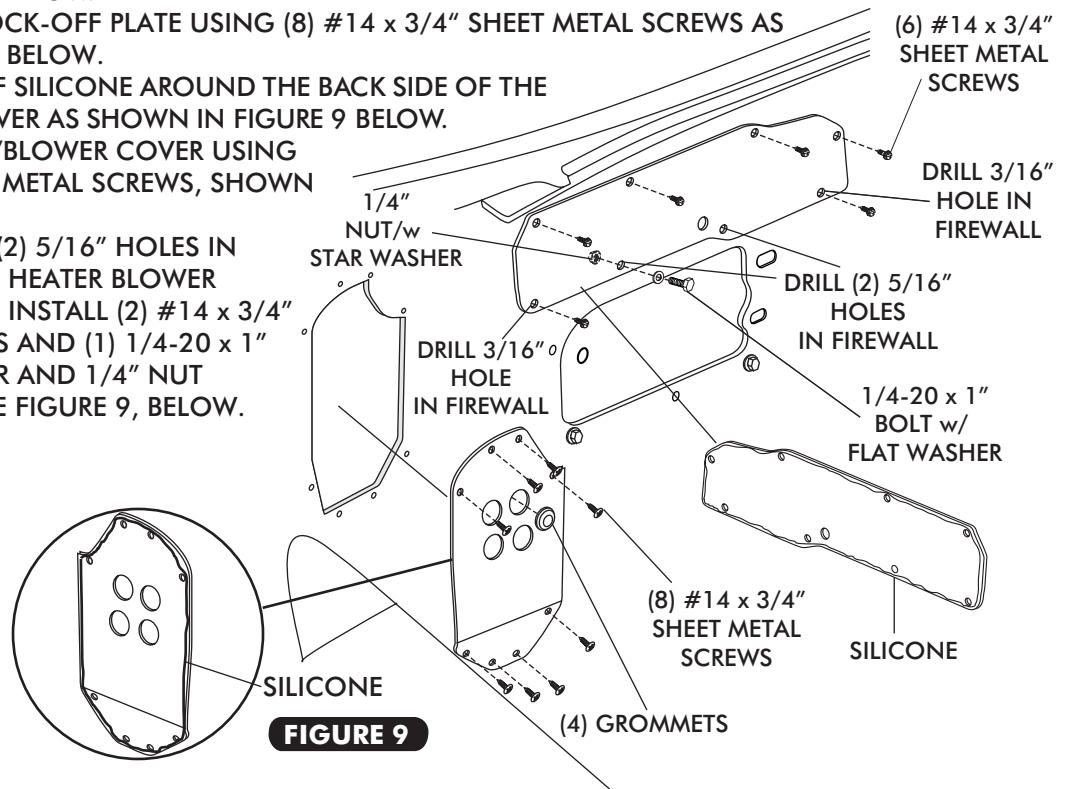

FIGURE 9
- ☐ INSTALL (4) GROMMETS IN A/C BLOCK-OFF PLATE AS SHOWN IN FIGURE 9 BELOW.
- ☐ APPLY A 1/4" BEAD OF SILICONE AROUND THE BACK SIDE OF THE A/C BLOCK-OFF PLATE AS SHOWN IN FIGURE 9 BELOW.
- ☐ INSTALL THE A/C BLOCK-OFF PLATE USING (8) #14 x 3/4" SHEET METAL SCREWS AS SHOWN IN FIGURE 9 BELOW.
- ☐ APPLY A 1/4" BEAD OF SILICONE AROUND THE BACK SIDE OF THE HEATER/BLOWER COVER AS SHOWN IN FIGURE 9 BELOW.
- ☐ INSTALL THE HEATER/BLOWER COVER USING (4) #14 x 3/4" SHEET METAL SCREWS, SHOWN IN FIGURE 9.
- ☐ DRILL (2) 3/16" AND (2) 5/16" HOLES IN FIREWALL USING THE HEATER BLOWER COVER AS TEMPLATE. INSTALL (2) #14 x 3/4" SHEET METAL SCREWS AND (1) 1/4-20 x 1" BOLT w/FLAT WASHER AND 1/4" NUT w/ STAR WASHER. SEE FIGURE 9, BELOW.